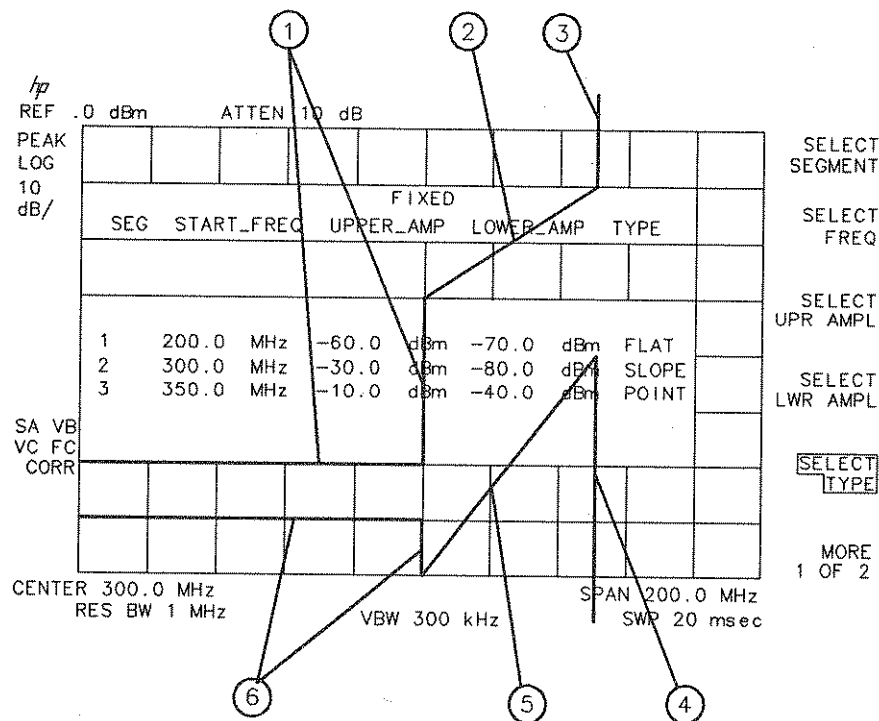

Figure 5-10. Segment Types
- frequencies between the two points. If the amplitude values of the two segments differ, the limit-line will “step” to the value of the second segment. See Figure 5-10.
Figure 5-10 demonstrates the different segment types.